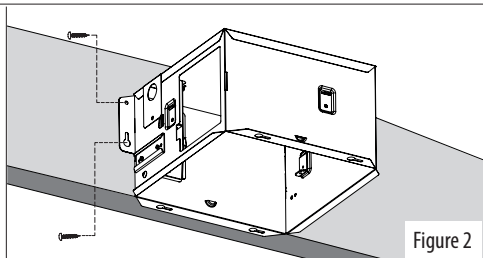

Figure 2
Position the housing so that the housing contacts the bottom of the joist. Secure housing to joist through holes in each mounting flange with four (4) screws (Figure 2).